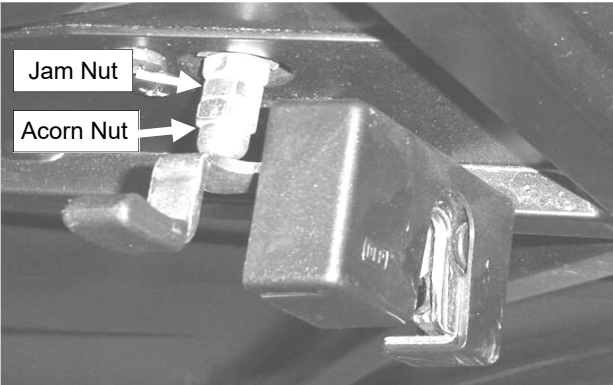

Fig. 5.11 (view of driver’s side door)
5.11 Adjust the acorn nut and jam nut on the door handle plunger shown in figure 5.11 so that the plunger is as short as it can be. Use two 13mm wrenches. Further adjustment will be made in a later step.